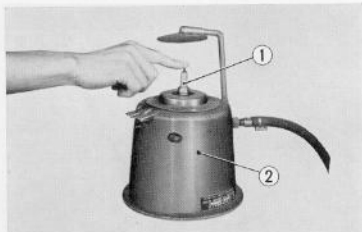

Fig. 5.9 Spark plug cleaner
a. The use of the spark plug cleaner is the recommended method of cleaning the plugs, however, a satisfactory cleaning can be performed by using a needle or a stiff wire to remove the deposits and then wash in gasoline followed by drying with compressed air. (Fig. 5.9)